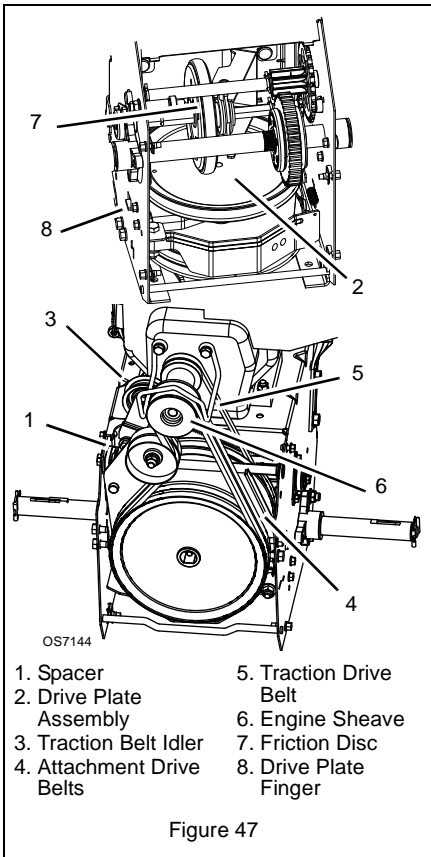

Figure 47
- To gain belt clearance, remove swing gate spacer and slide drive plate over so that finger clears stop hole in frame and can swing past it (Figure 47).